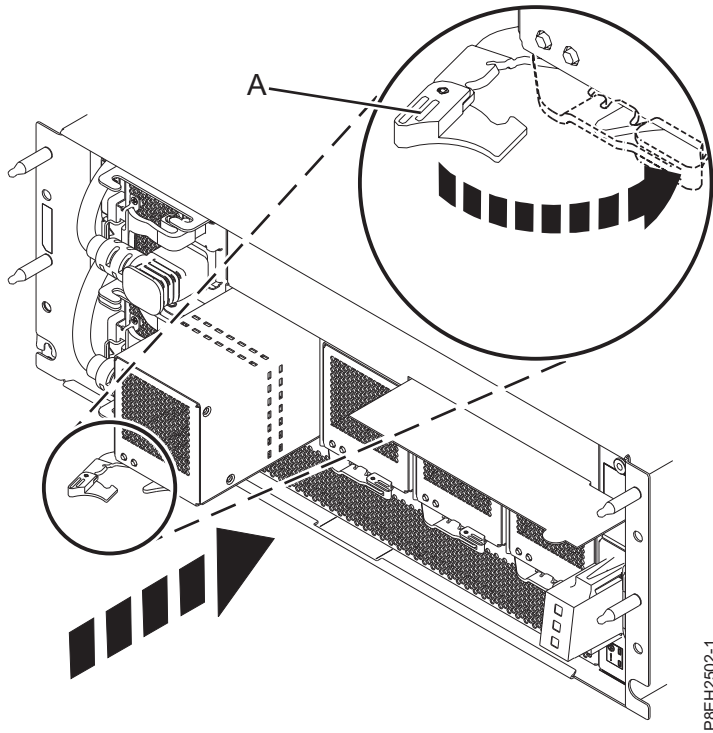

Figure 5. Replacing the fan in the EMX0 PCIe3 expansion drawer
2. Ensure that the fan handle (A) is opened as shown in Figure 5 on page 5.
3. Using your hand to support the bottom of the fan, align the fan with the fan slot and slide it into the bay. See Figure 5.
5. Rotate the fan handle (A) in the direction shown, and then press the fan handle until the latch locks in place. See Figure 5.